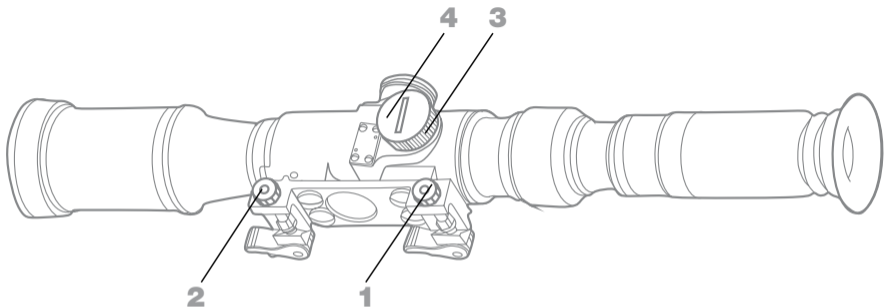

Figure 2 – PO4x24P sight
- disengage the nuts 1,2 (Figure 2);
Reticle brightness can be adjusted by turning the body of battery compartment 3 (see Figure 2). The body of battery compartment 3 is marked with figures from “0” to “12”. The sight is switched on when rotating the body of battery compartment 3 in the direction of figures increasing. This direction of rotation increases brightness of the illumination, while rotation in the opposite direction decreases the brightness. The sight is switched on when figure “0” is set against the notch on the sight body.
Sight is powered from one CR2032 lithium battery (hereinafter referred to as “battery”). Install battery into the sight (Figure 2) in the following sequence: